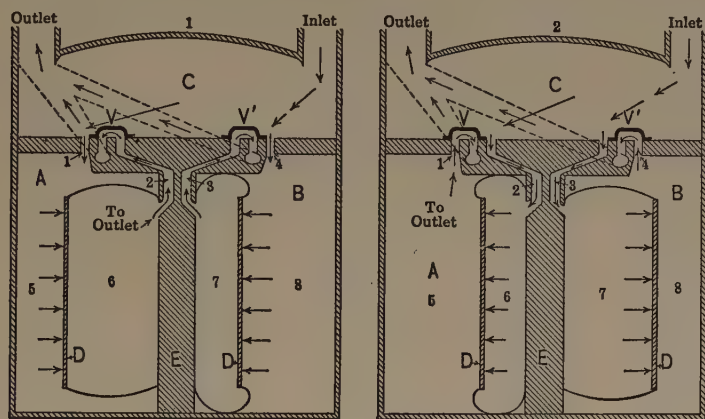

FIG. 331.—Section of the gas meter.
**The gas meter.** The gas meter receives the gas from the service pipe and records in cubic feet the quantity of gas that passes through it into the consumer's pipe. Since the gas delivered is at a pressure above that of the atmosphere, it is able to do work. Gas is therefore applied to operate the mechanism of the meter and it records its own volume. The gas meter is a gas-tight metal box, Fig. 331, having a gas entrance